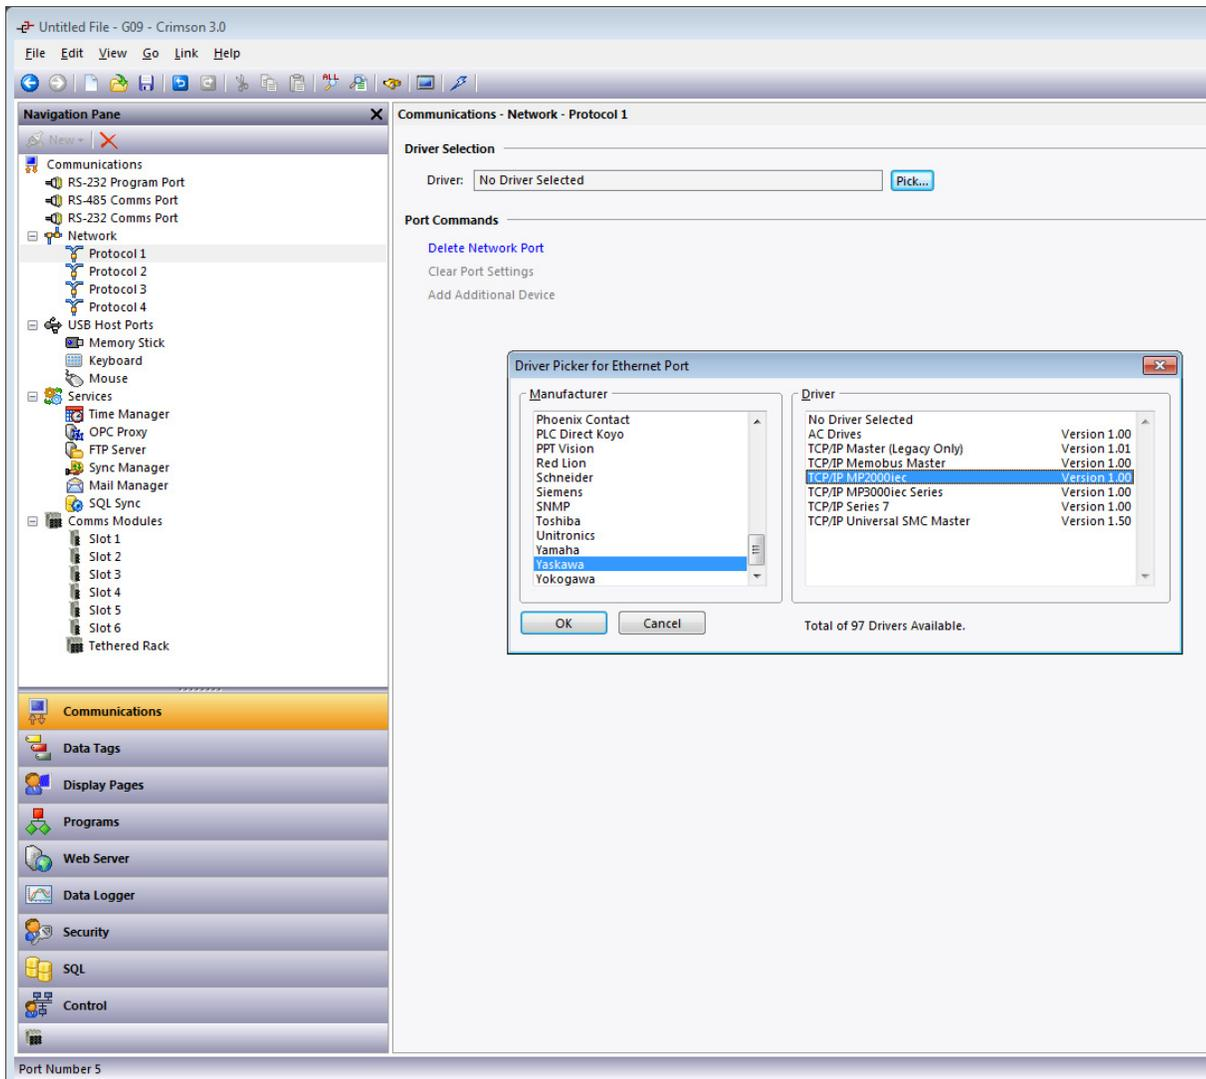

Figure 2.
- From the Navigation Pane, select Protocol 1; the Driver Picker for Ethernet Port popup is displayed, as shown in Figure 2.